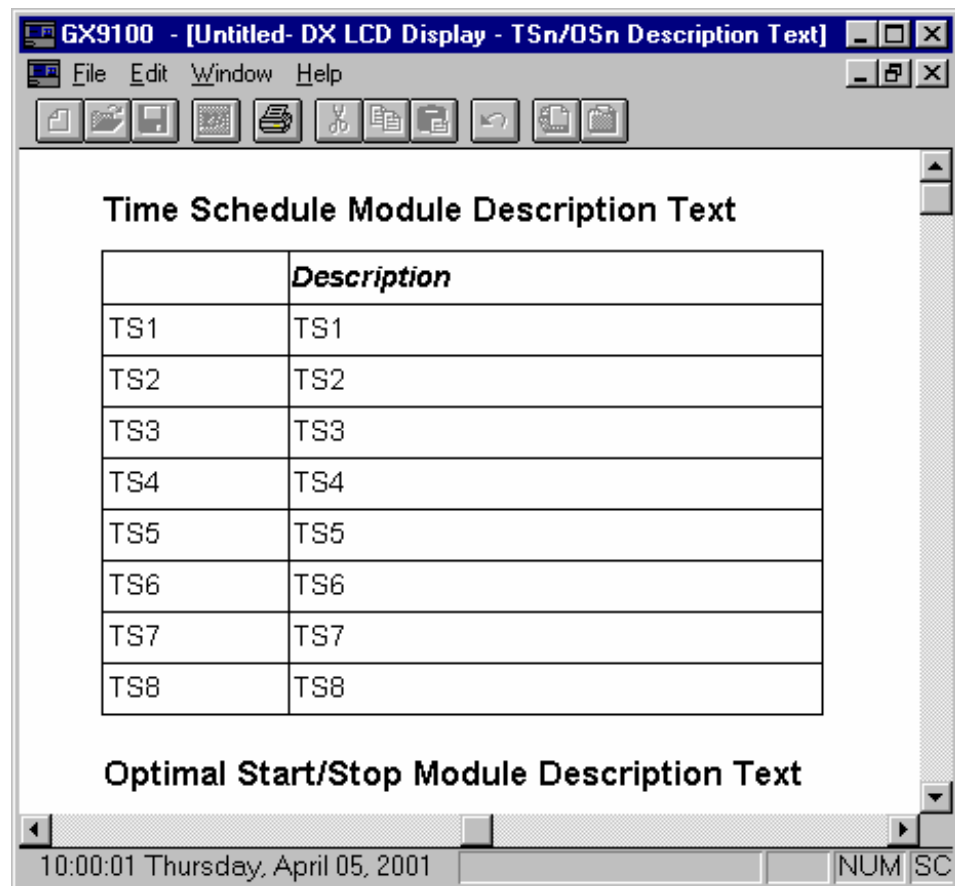

Figure 14-1: TSn/OSn Description Text Window
The TSn/OSn Description Text window (Figure 14-1) contains one table for the Time Schedule modules and another for the Optimal Start/Stop modules. Default descriptions appear in the Description field for each module, taken from the main configuration database using the following criteria:
1. On the DX LCD Display menu, click TSn/OSn Descriptive Text. The DX LCD Display TSn/OSn Description Text window appears (Figure 14-1).
1. On the DX LCD Display menu, click TSn/OSn Descriptive Text. The DX LCD Display TSn/OSn Description text window appears (Figure 14-1).